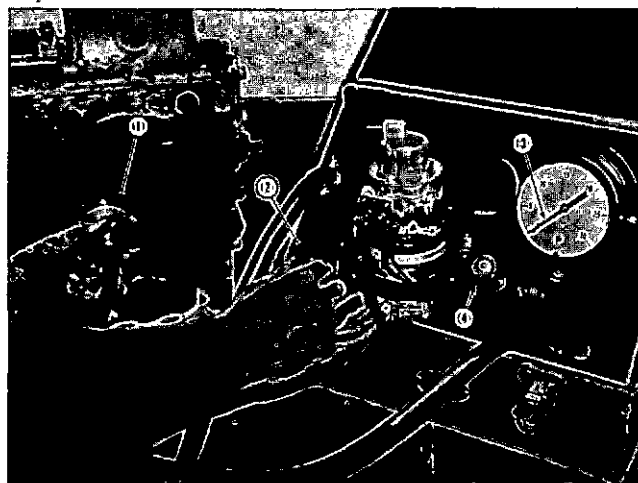

Fig. 2-6-1, V40239. Vacuum test valves for leaks
A vacuum tester to check valves and seats for leakage is available as ST-417. It consists of a vacuum pump, vacuum gauge and vacuum cup. Use with any 6-volt battery source or 110-volt electrical outlet as required, Fig. 2-6-1.
2. Select proper vacuum cup (1, Fig. 2-6-1) for size valves to be tested. Cups are furnished with each tester so all engine models can be tested.
4. Turn hand shut-off valve to open position; hold push button (2) to operate vacuum pump.
5. Operate vacuum pump until hand on vacuum gauge (3) stops climbing at 18 to 25 inch-hg [0.6210 to 0.8625 kg/sq cm] as shown on dial.
6. Close shut-off valve (4); release push button to stop pump.